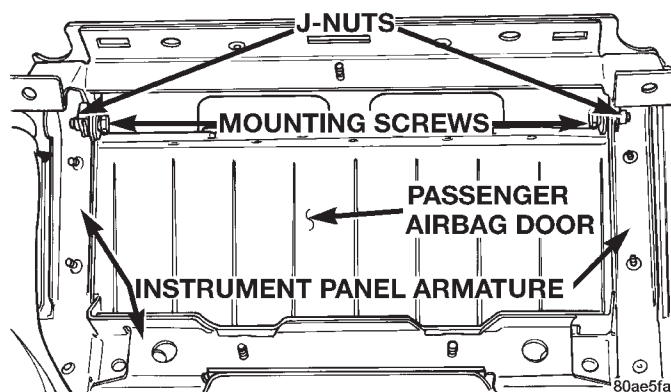

Fig. 14 Passenger Side Airbag Door Remove/Install
(7) Remove the passenger side airbag module from the instrument panel. See Airbag Module in this group for the procedures.
(8) Remove the two screws that secure the passenger side airbag door bracket to the instrument panel armature (Fig. 14).